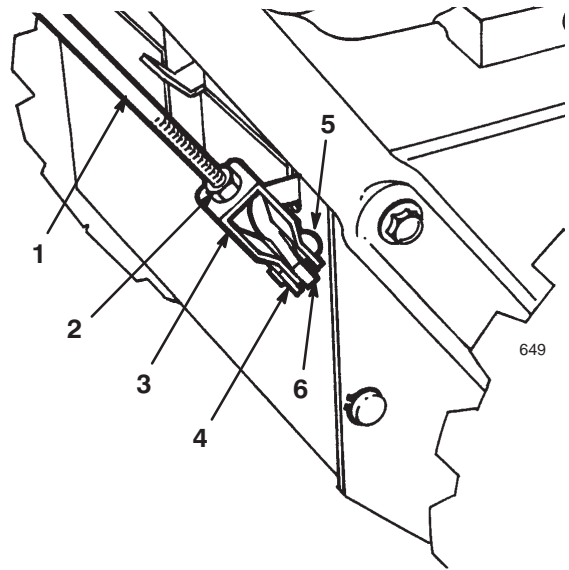

Figure 7
2. Align the holes in the clevis and the lower control rod and insert the clevis pin (Fig. 7).
1. Loosen the jam nut above the clevis on the upper control rod (Fig. 7).
- C. Thread the clevis up or down to increase or decrease the distance between the top of the handgrip and the bottom of the auger/impeller drive control lever (Fig. 7).
6. When the adjustment is correct, install the clevis pin and secure it in place with the cotter pin (Fig. 7).
7. Tighten the jam nut to secure the clevis (Fig. 7).